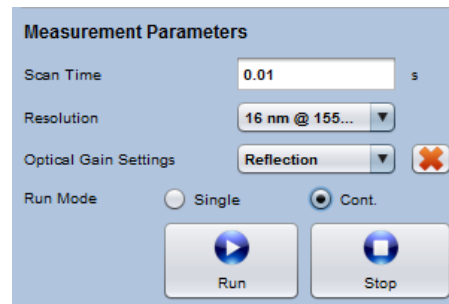

Figure 5: Measurement parameters for optimization of optical power coupling in reflectance measurements
- Adjust the parameters: (see Figure 5)